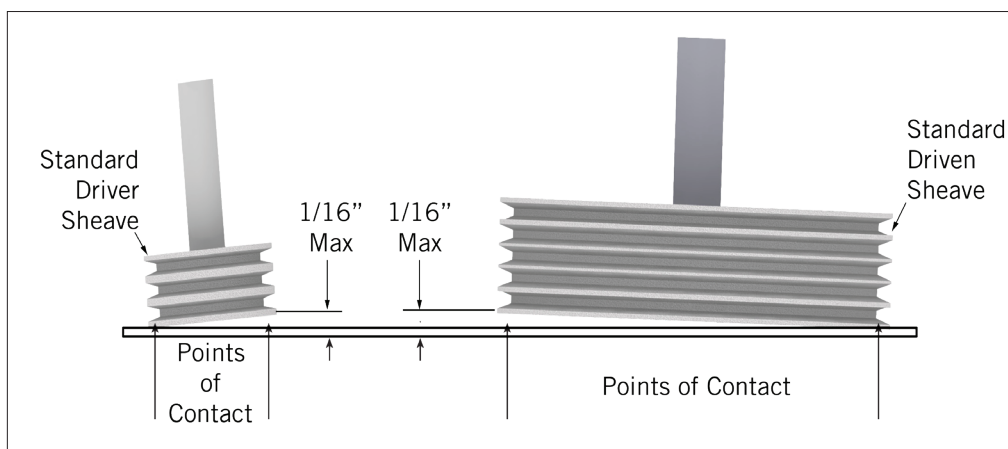

Figure 5. Drive Alignment
- Place a straight edge across the driver and the driven sheaves as shown in **Figure 5**.
- The straight edge should contact all four points as shown in **Figure 5** indicating that the drives are properly aligned.